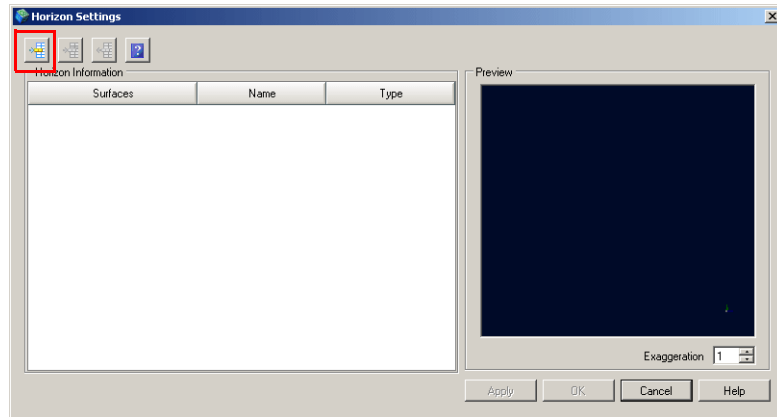

Figure 32 Horizon Settings window
- ☞  **Insert Row** button (Figure 32)